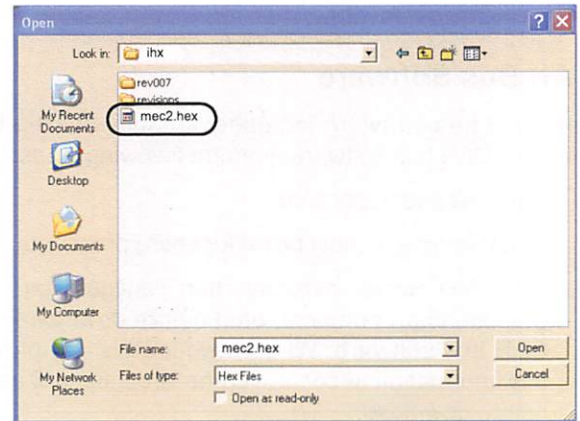

FIGURE 16
9. A screen will drop down called **Open** as shown in Figure 16.
11. Locate and click **mcc2.HEX** icon to select file (see Figure 16). The hex file will now download the program. The screen will display **Process Complete/Timed Out** when files are fully loaded and file closes automatically.